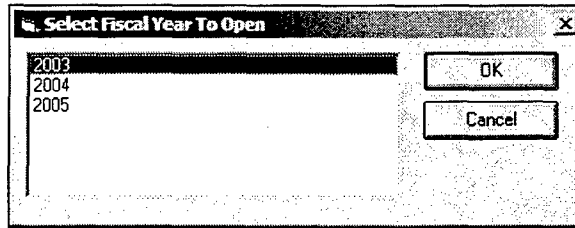

Figure 4. Select Fiscal Year
2. Select an existing fiscal year from the box shown in Figure 4.